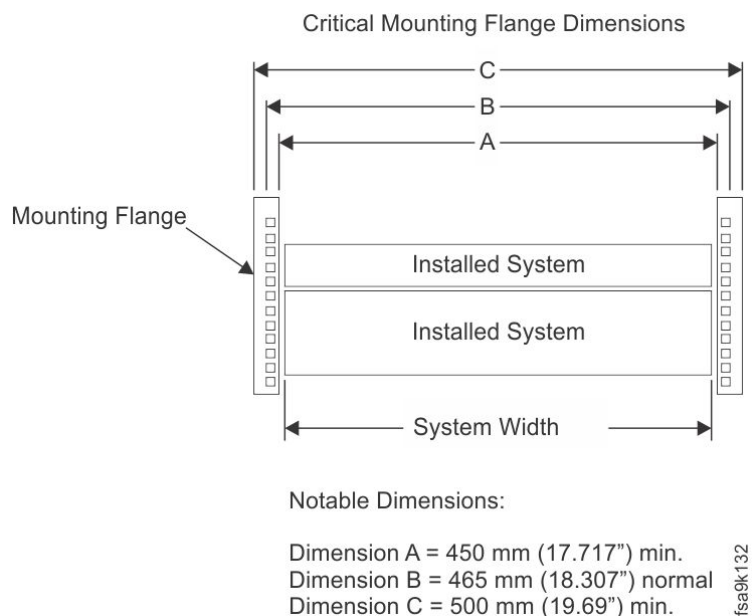

Figure 9. Critical mounting flange dimensions
- The front rack opening must be 535 mm (21.06 in.) wide for dimension C (the width between the outsides of the standard mounting flanges, see Figure 9 on page 18). The back rack opening must be 500 mm (19.69 in.) wide for dimension C (the width between the outsides of the standard mounting flanges).